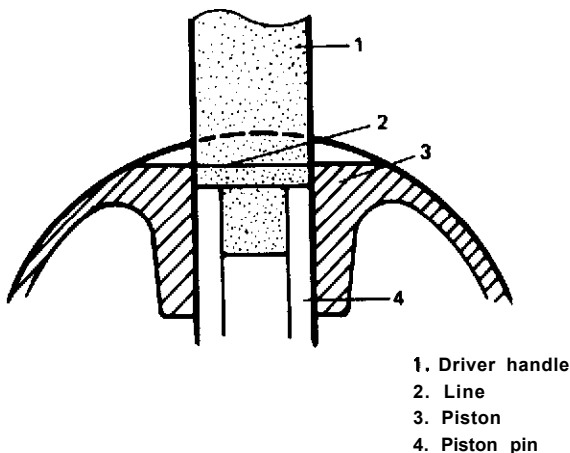

Fig. 3-6-15 Line marked on driver handle
- ③ Press piston pin until line marked on driver handle is flush with flat surface of piston (Fig. 3-6-15).